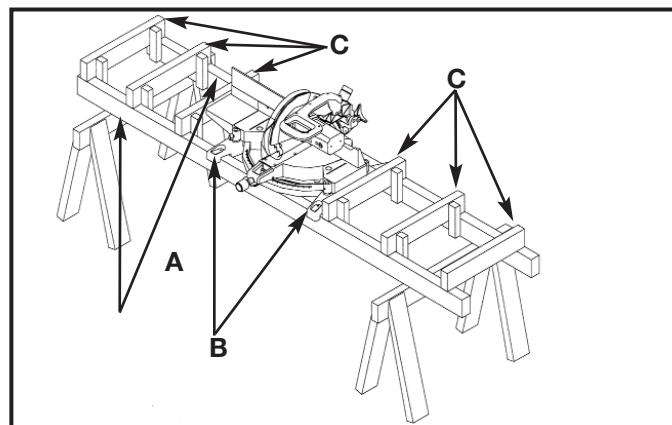

Fig. 10
Work supports can be made easily for the miter saw. Fig. 10 illustrates the miter saw mounted to two standard 2 x 4's (A). Fasten the grooves in the two mounting legs (B), to the 2 x 4's, using four screws through the four holes in the mounting legs. The length of the 2 x 4's (A) can vary, depending on preference. The distance from the top of the 2 x 4's (A) to the compound miter saw table is 3 1/2". Standard 2 x 4's (C) can then be fastened to the top of the 2 x 4's (A). The top of the 2 x 4's (C) will then be the same height as the miter saw table, or minor adjustments can easily be made depending on the height of the 2 x 4's. This method will provide support for long workpieces using standard 2 x 4's instead of constructing an expensive, complicated work support.